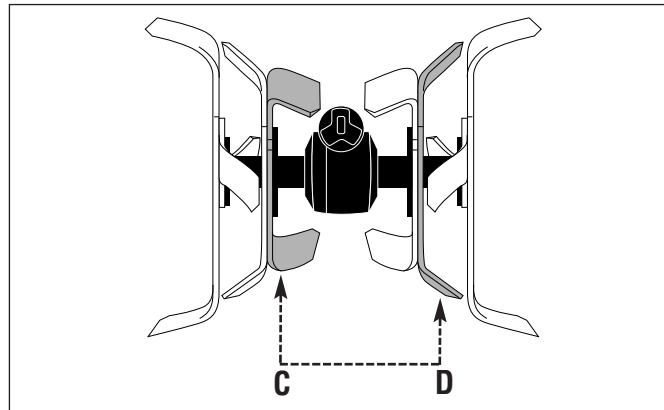

Figure 29: Exchanging position of tines at "C" and "D."
Step 2: Move the two *right-curved* tines from position "C" on the left inner holder to the "D" position on the right inner holder. Move the two right-curved tines which were at the "D" position to "C." See Figure 29.